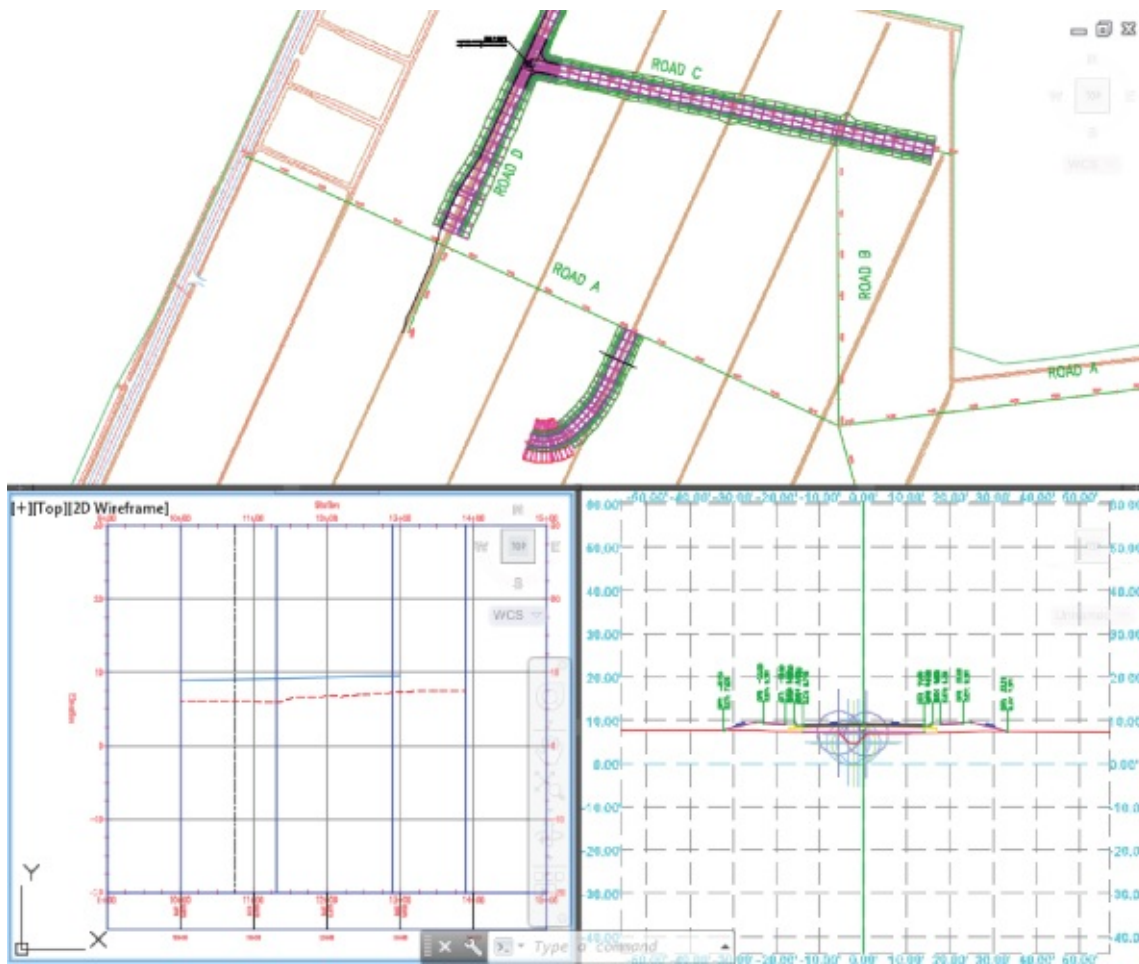

Figure 9.38 The Corridor Section Editor with Viewport Configuration set to Three: Above
5. Click OK to accept the settings in the Viewport Configuration dialog. Your screen should now look similar to Figure 9.38.